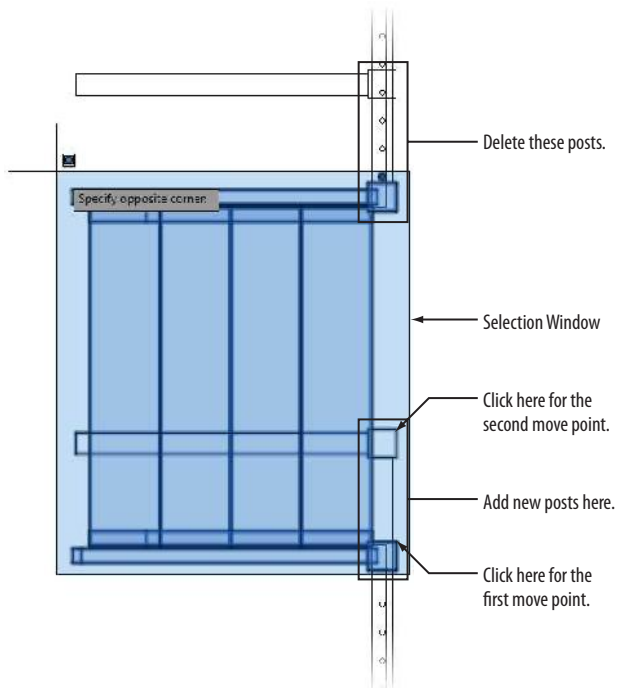

FIGURE 16.70 : Moving the deck to make it narrower
16. Delete the 3/4" (20 mm) handrail posts in the vertical row on the north side of the 3D steps between the 4" (102 mm) 3D vertical post and the 4" (102 mm) 2D vertical post (see Figure 16.70).
18. Using the MOVE command, move the steps into place, as shown in Figure 16.70.